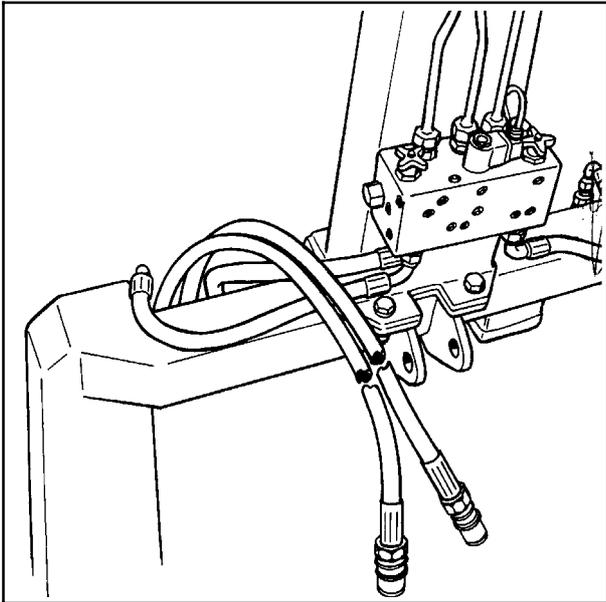

Fig. 4-9
The counter pressure on the return must be as low as possible, and not exceed 10 bar. This should be measured with a gauge. It is recommended to use one single-working hydraulic outlet and arrange a free return circuit to the oil tank. If you are unsure of what oil pressure the tractor gives, or what oil pressure the balewrapper receives, please contact your machinery dealer. Generally all tractors have got some counter-pressure in their hydraulic return systems. Some tractors have more than others. **Hose with red cap shall be connected to pressure, (P), and hose with blue cap to the return. (T).** (See fig. 4-9).